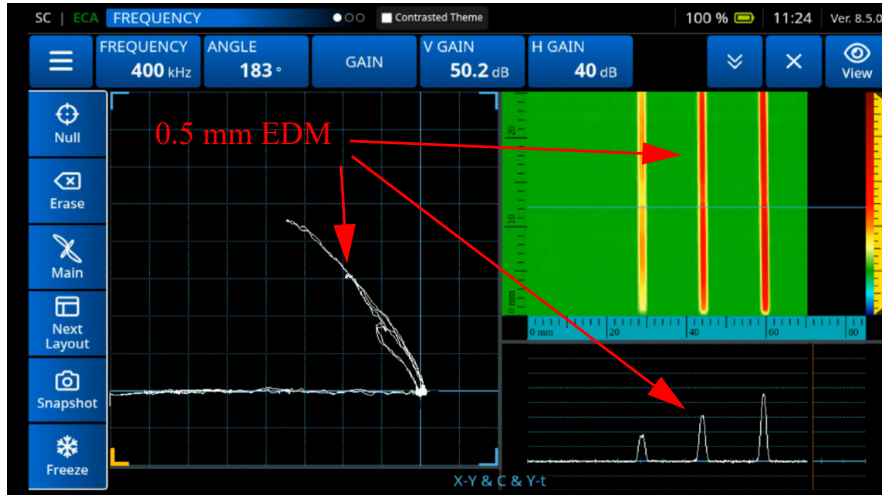

Figure 4-9 Adjust the V Gain Setting
- Using the live impedance, **V Gain** setting, and the knob, adjust the 0.5 mm deep defect at 50% FSH (See Figure 4-9 on page 129).